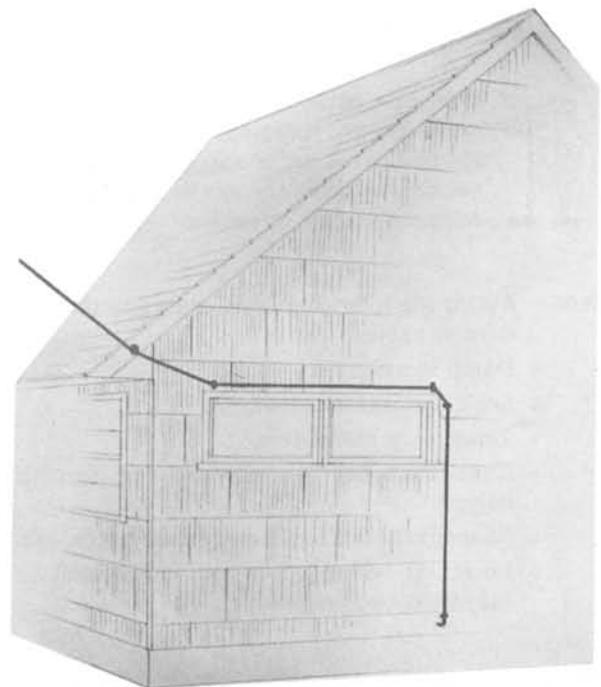

Fig. 6 – Horizontal Drop Run
- Place horizontal run above the reach of the public (see Fig. 6).